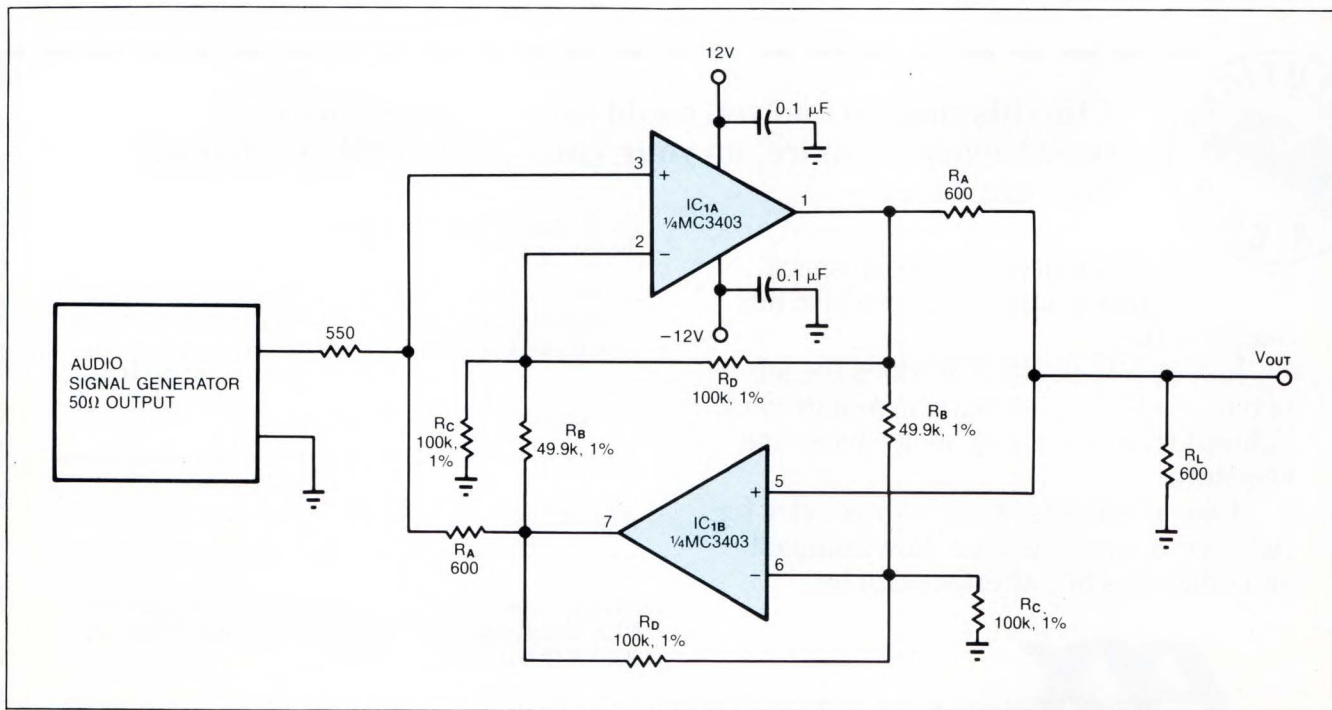

Fig 3—Based on the circuit of Fig 2, this 2-way amplifier provides a gain of 2 between 600Ω terminations.
**Fig 3** shows an example of a circuit using 600Ω resistive loads and a gain of 2. The signal at IC1B's output measures only 2 to 3% of the signal-generator output. **EDN**